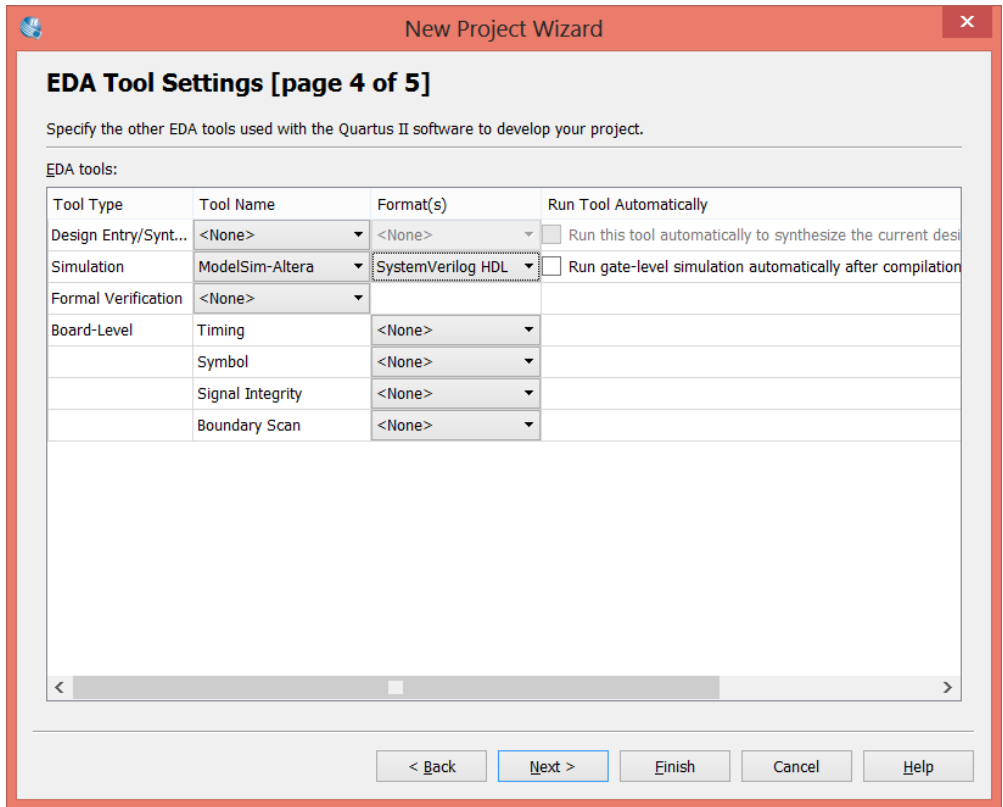

Figure 3
- Click **Next** on page 4. Select *ModelSim-Altera* as the simulation tool name, and *SystemVerilog HDL* as the simulation format. See Figure 3. Click **Finish** on page 5.